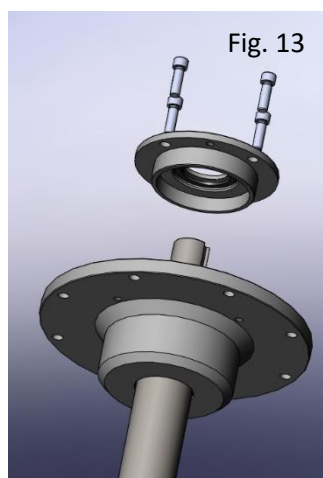

Fig. 13
2. Remove the shaft with ball bearing (fig 13)